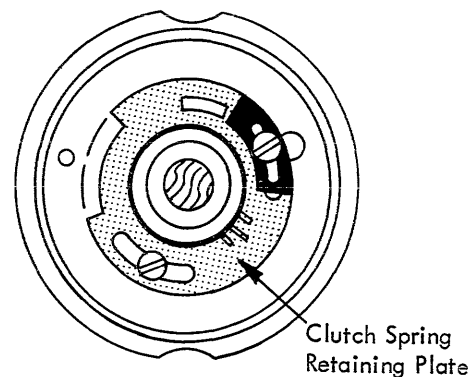

FIGURE 28. Shift Clutch Spring Retaining Plate
2. Shift Clutch Spring Retaining Plate - Adjust the retaining plate attached to the shift cam (Fig. 28) to satisfy the following condition. With the machine turned OFF and the shift cam detented, the shift clutch ratchet should rotate .028" to .059" when the shift release arm releases the ratchet. The rotation can be observed relative to the shift interlock (Fig. 29B). Half the distance from the center of one ratchet tooth to the next is $\frac{3}{64}$ " or .047".